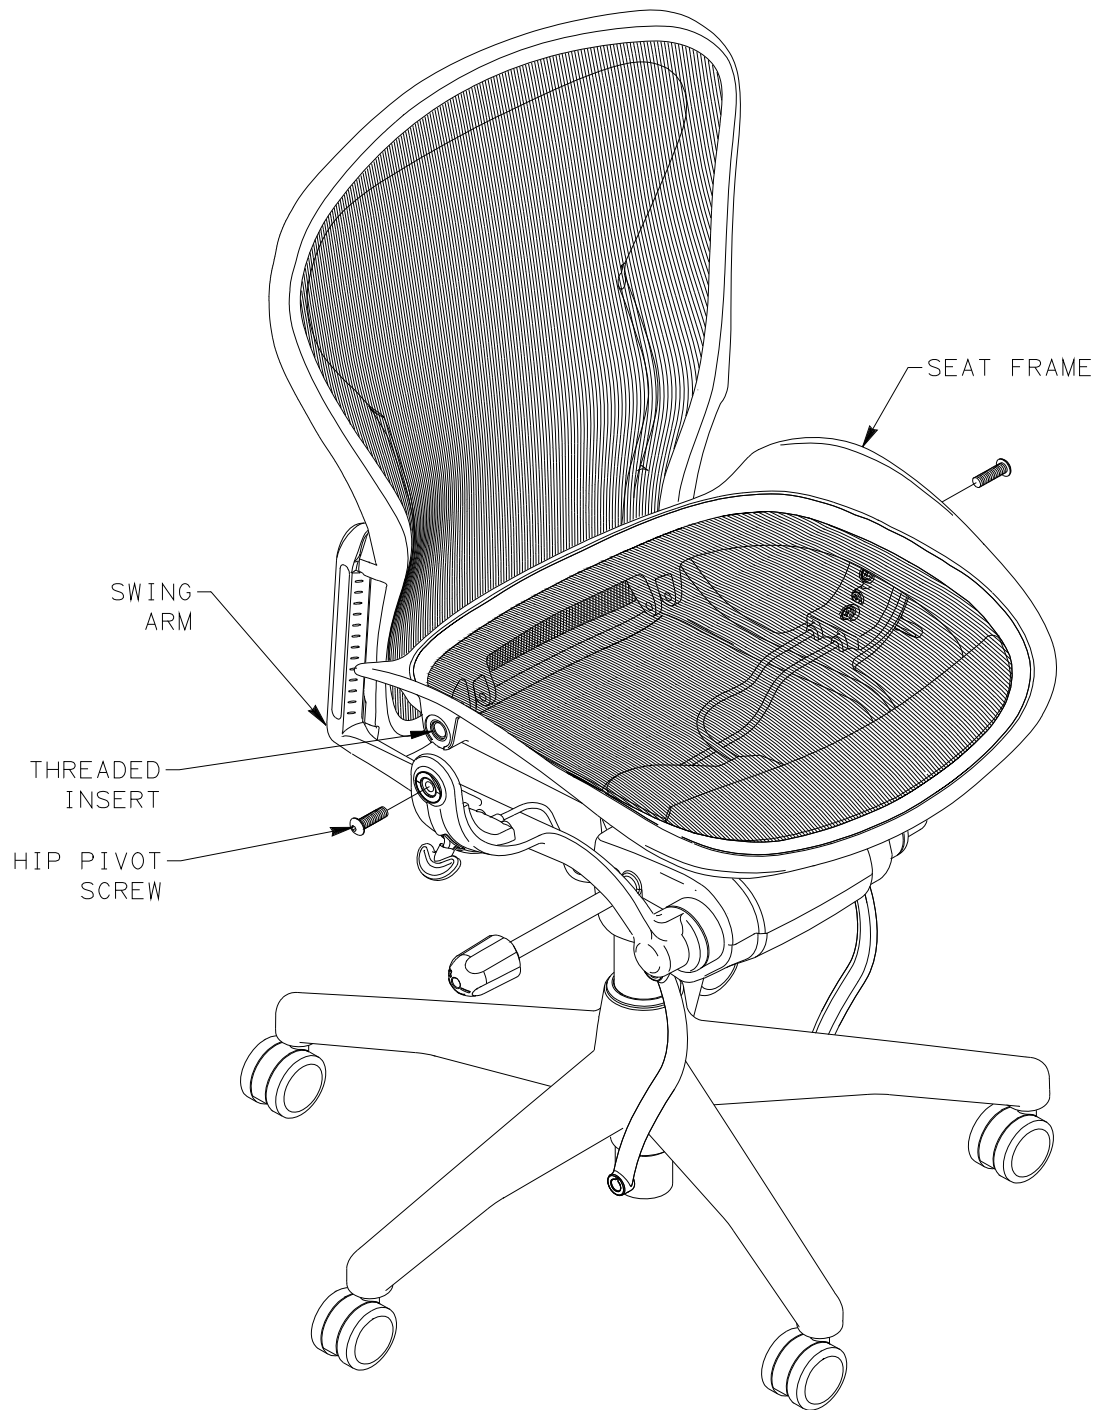

FIGURE 2
-USE RATCHET WRENCH AND 6MM HEX BIT TO REMOVE HIP PIVOT SCREW FROM EACH SWING ARM. IF THREADED INSERT TURNS WITH HIP PIVOT SCREW, STOP IMMEDIATELY AND DO THE FOLLOWING STEP: TIGHTEN HIP PIVOT SCREW INTO THREADED INSERT AS MUCH AS POSSIBLE. USING A QUICK JERKING MOTION WITH RATCHET WRENCH, BACK OUT HIP PIVOT SCREW FROM THREADED INSERT. IF THREADED INSERT TURNS WITH HIP PIVOT SCREW, REPEAT PROCESS. SEE FIGURE 2.
3. PLACE REPLACEMENT SEAT FRAME BETWEEN SWING ARMS. ATTACH SEAT FRAME TO SWING ARMS WITH HIP PIVOT SCREWS. TIGHTEN AND TORQUE TO 180-200 IN-LB. SEE FIGURE 2.